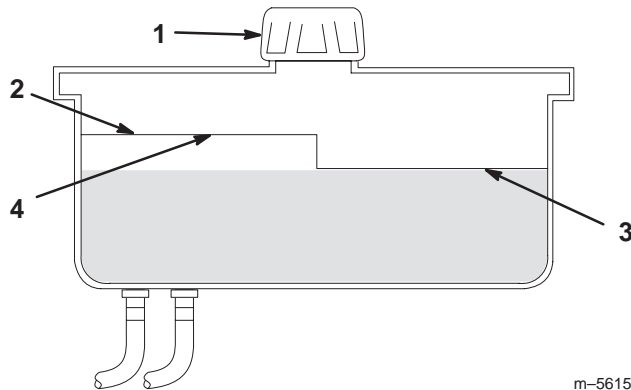

Figure 44
2. Clean the area around the filler neck of the hydraulic tank (Fig. 44).
3. Remove the cap from the filler neck. Look inside to check if there is fluid in the reservoir (Fig. 44).
Note: The fluid level should be to the top of the **hot** level of the baffle, when the fluid is warm (Fig. 44).